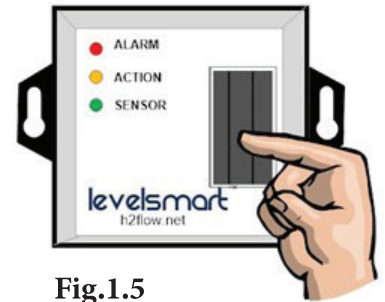

Fig.1.5
- a. Hold the magnet to the face of the Valve Controller in the position shown (Fig.1.5) for 2 seconds and remove it.
- b. Once the magnet has been removed, the ACTION LED will illuminate for five (5) seconds. When this occurs, the valve will open for five (5) seconds before closing. Confirm that the valve is open by listening for a click from the valve solenoid as soon as the magnet is removed and the ACTION LED illuminates. You may also hear water flowing through the valve. At the end of five (5) seconds, the ACTION LED will go off and the valve will close.